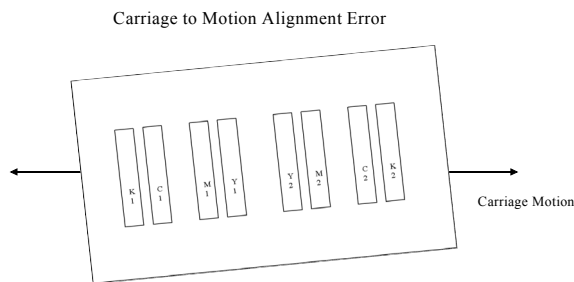

Figure 3: Carriage to motion alignment error
- Carriage alignment errors,(figure 3) These can be produced by incorrectly aligning the carriage to the carriage motion.
Once the drop spread data is complete, construct a simple calculator that allows you to vary the process and cross process addressability (in dpi) and error estimates while looking at the rate of under or over fill. The program should also incorporate the printer errors discussed above. For simplicity, assume that drops are round when they land on the substrate and require about a 41% overlap to achieve solid area fill. Figure 3 shows how this is done.